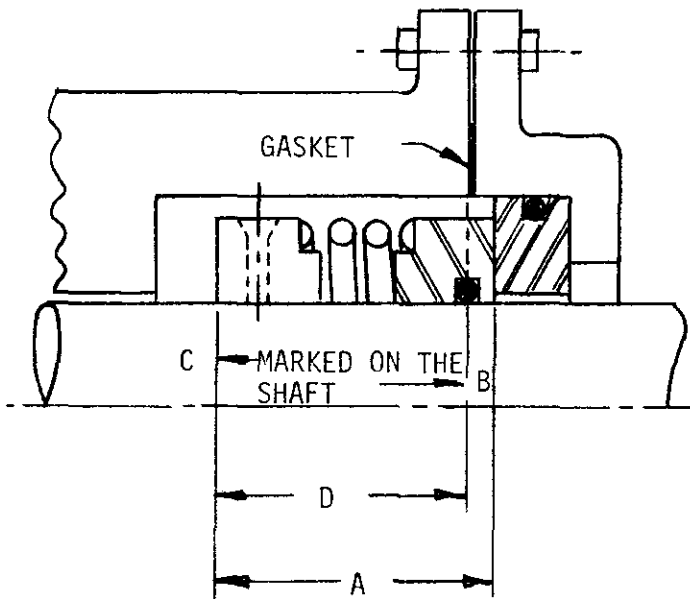

Fig. 8-8
7. Using a straightedge, scribe a line (see Fig. 8-8) on the shaft sleeve (659) while rotating the shaft and holding the straightedge flush with the face of stuffing box. The resulting line is to be used as a reference.
8. Using the reference mark, determine the position of the mechanical seal. The drawing supplied with the seal has an indicated dimension taken from the face of the stuffing box to the back face of the seal or drive collar (D Fig. 8-8) of the rotating assembly. Set the back of the seal or drive collar to this indicated dimension. Setting the seal to this dimension insures proper seal compression.
9. Secure the rotating element of the seal to the shaft sleeve (659).
10. Replace case cover (652) on pump.
11. Once case cover (652) is in place, carefully slide gland plate up onto the gland studs (848). Carefully tighten gland plate alternating between gland studs and turning nuts one flat at a time. Careless tightening of the gland plate can result in cracked seal faces.